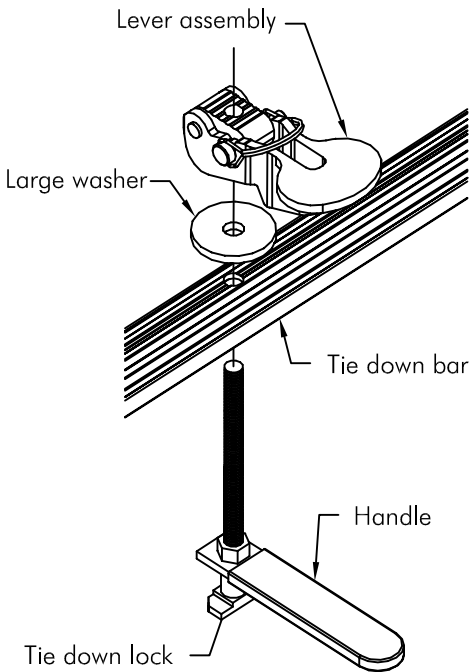

Fig. 2
2. Insert threaded rod through tie down bar from the bottom. The tie down lock and handle assembly should be on the bottom (flat) side of bar. Slide the large washer over rod. Screw the lever assembly onto the rod until 1" of thread is sticking out the top of lever assembly. See Fig. 2.